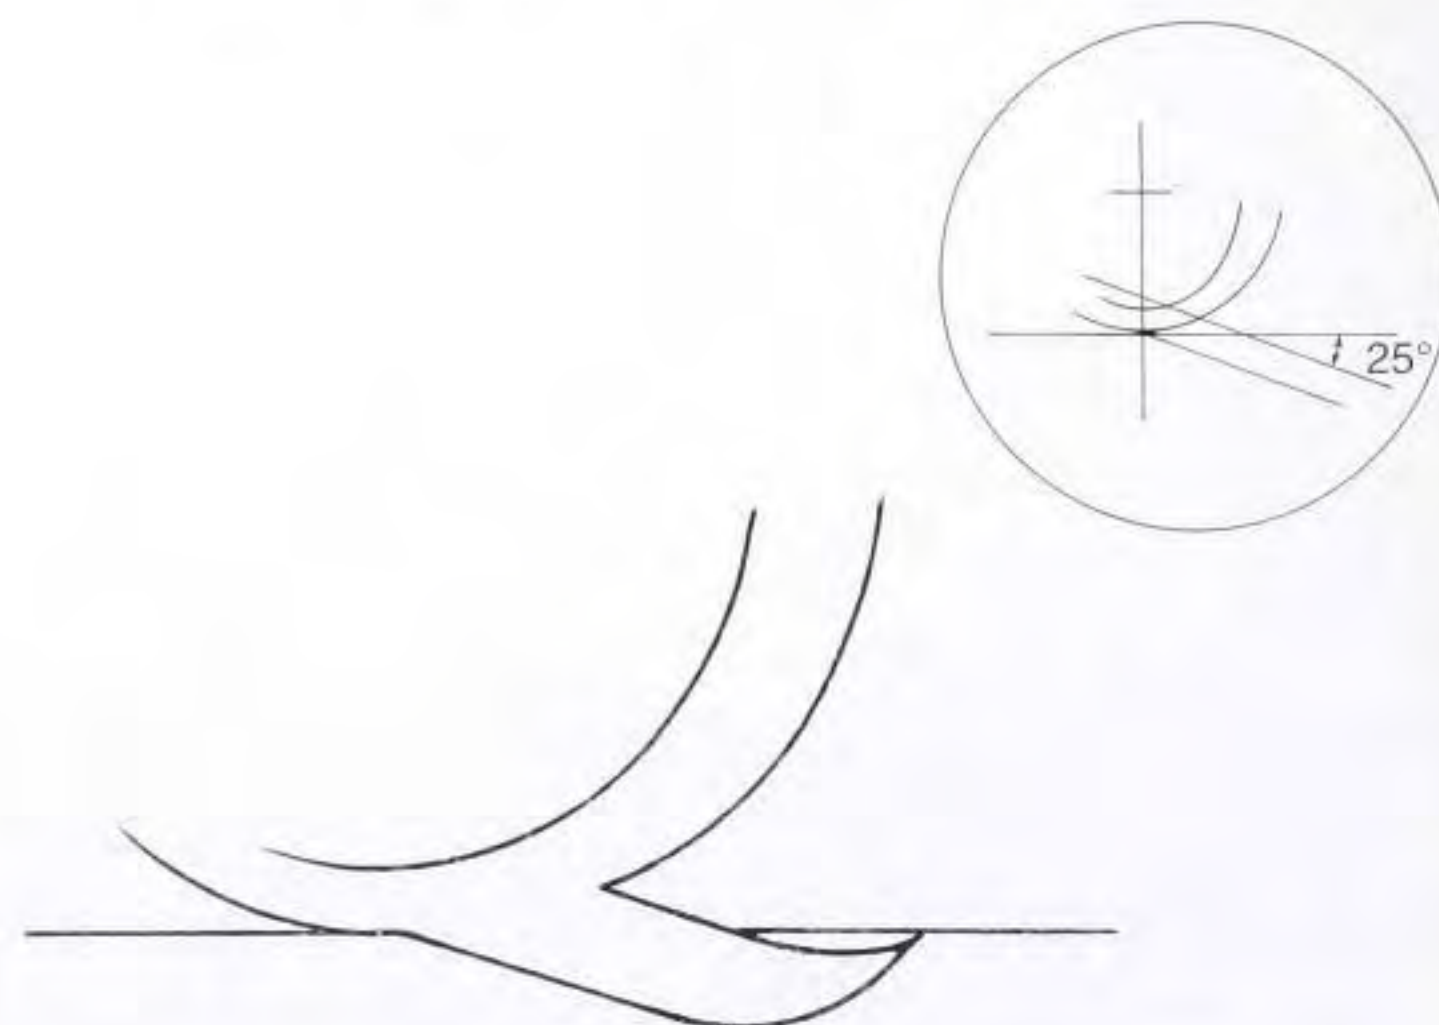

Fig 5.105 Q: construction.
- 1 Refer to Fig 5.105. Incise a complete letter O first.